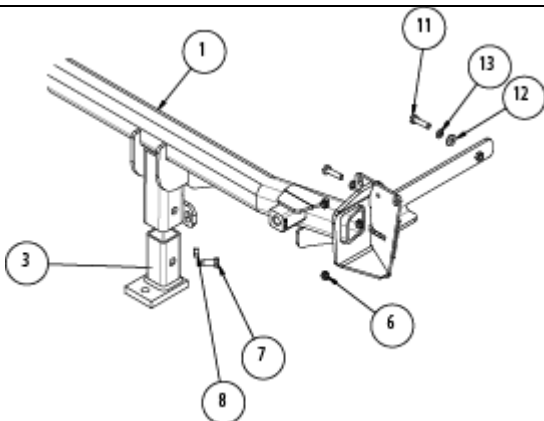

Figure 5 – Fit the towbar assembly.
6. Fit the anti-rattle bolt & nut. Refer to Figure 5.